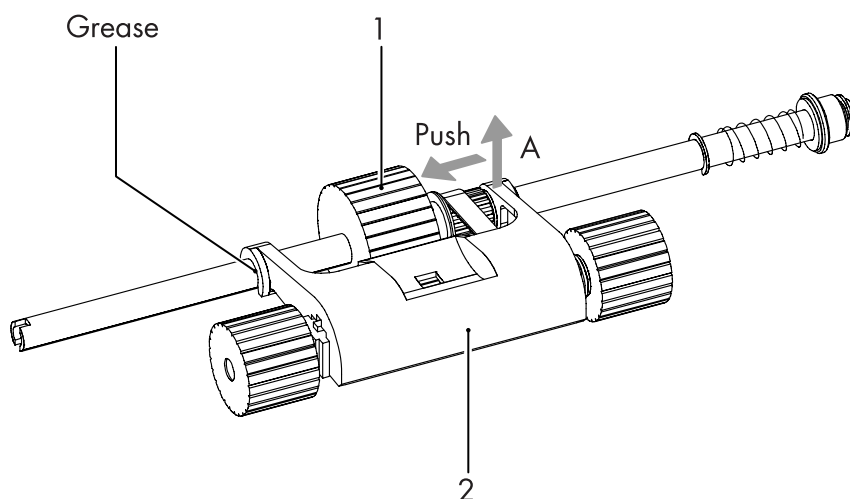

figure 3.9
Remove the feed axle assy. as described above. Refer to figure 3.9. Click (A) the plastic cover 2 off the axle and remove it with the belt and the paper pulleys from the feed axle. Remove the grease from the left hand side of the feed axle with some alcohol. Push the feed roller 1 to the left hand side of the axle as indicated. Rotate the axle 180 degrees and push again. Repeat the rotating and pushing until the feed roller can be pulled off the axle.
Note: Before replacing the feed roller ensure that the axle is free of grease. After replacing the feed roller put some grease Molykote PG 65 on the plastic cover 2 as shown in figure 3.9. Replace the plastic cover with the belt and the rollers.